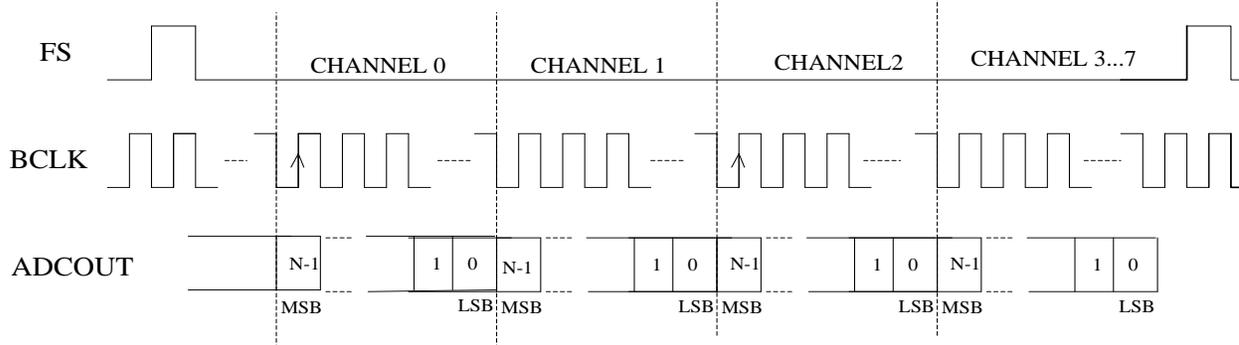

Figure 27 PCM Time Offset Audio Data
Normally, the DAC data is clocked immediately after the Frame Sync (FS). In this mode, audio data is delayed by a delay count specified in the device control registers. The Channel 0 MSB is clocked on the BCLK rising edge defined by the delay count set in **REG0x0F[9:0]**. The subsequent channel's MSB is clocked on the next BCLK after the LSB of the previous channel. This can be seen in **Figure 27**.